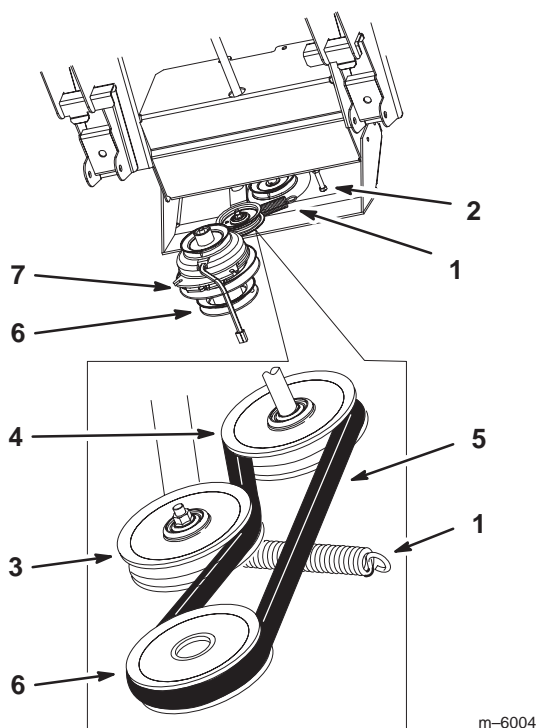

Figure 18
1. Install the bagger belt onto the clutch drive pulley (Fig. 18).
5. Install the tensioner spring onto the bolt attached to the bagger (Fig. 18).
6. Install the spring onto the tensioner pulley arm hook (Fig. 18).